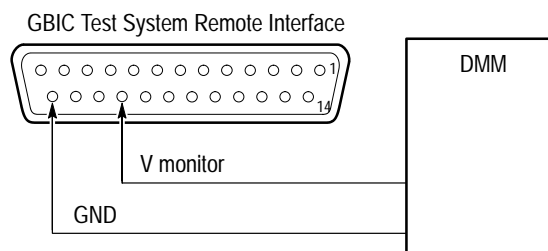

Figure 32: GBIC port Vdd default voltage Test Setup
4. Connect the DMM common (or GND) lead to pin 25 of the Remote Interface connector (see Figure 32).